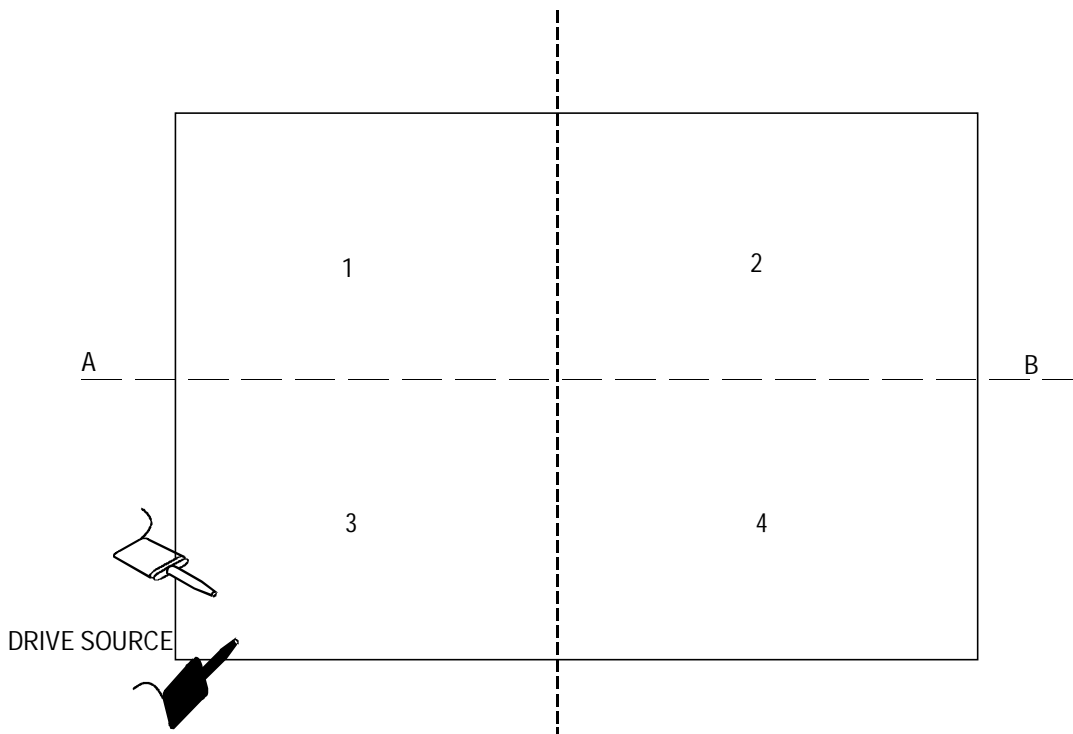

Fig 6-1 Board Sectoring
1. The board is first divided into four sectors (see Fig 6-1).